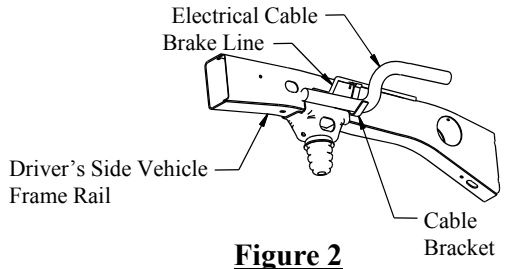

Figure 2
1. Figure 2 shows a cable bracket which holds a brake line to the inside of the frame rail. Loosen this bracket from the top of the frame and move the brake line down about 1/2" so that it is not interfering with hitch cross members.